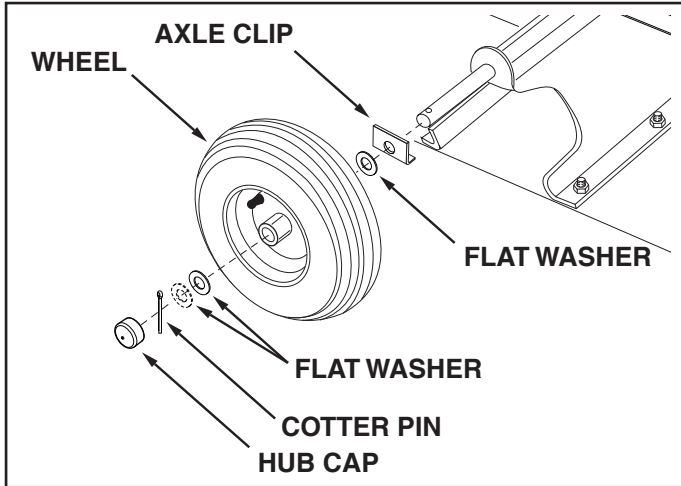

FIGURE 10
- Assemble an axle clip, a flat washer, a wheel with the valve stem facing out, and another flat washer onto each end of the axle. Place an additional flat washer on each end of the axle if there is space for it. Secure each wheel on the axle with a cotter pin, spreading the ends of the pin around the axle. Press a hub cap onto the flat washer on each end of the axle. See figure 10.